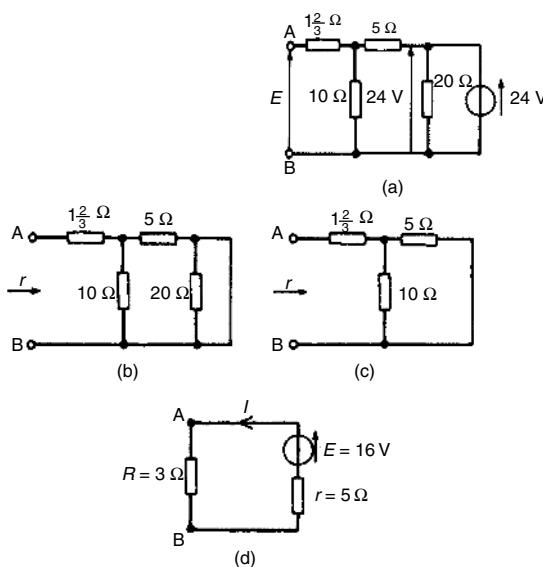

Figure 13.45
- (i) The 3Ω resistance is removed from the circuit as shown in Fig. 13.45(a).
- (iii) Removing the source of e.m.f. and replacing it by its internal resistance means that the 20Ω resistance is short-circuited as shown in Fig. 13.45(b) since its internal resistance is zero. The 20Ω resistance may thus be removed as shown in Fig. 13.45(c) (see Section 13.4 (vi)).
From Fig. 13.45(c), resistance,
- (iv) The equivalent Thévenin's circuit is shown in Fig. 13.45(d), from which, current,